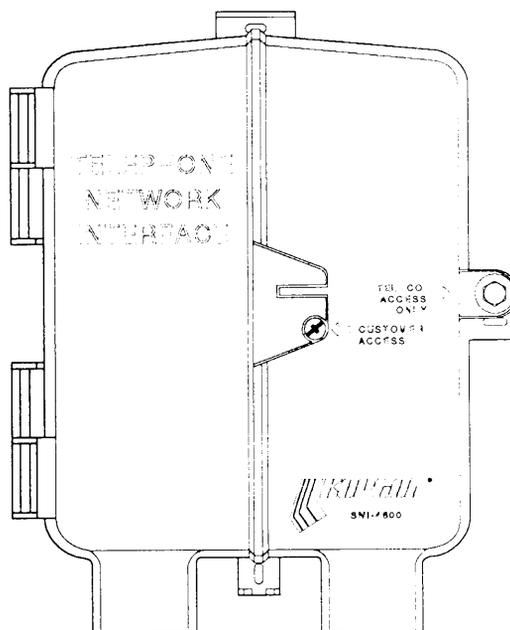

Fig. 1—SNI-4600 outside view
2.04 The SNI-4600 is a split cover design and has an individual cover for both the Telco and Subscriber sides. The SNI-4600 may also be equipped with up to 6 individually lockable Subscriber Access doors (each attached to a corresponding interface module under the Subscriber cover) for Subscriber Access. Refer to Figure 1.
3.25 Install Module Adapter Plate using the screws provided in the mounting holes marked "D". Refer to Figure 1.
3.26 Slide electronic modules into appropriate slots in Module Adapter. Refer to Figure 1.